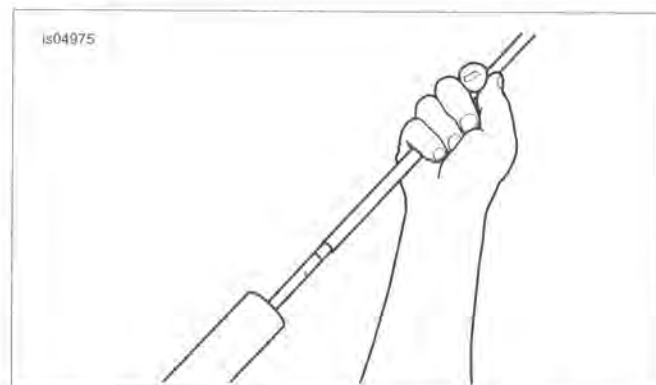

Figure 2-103. Pump Damper Rod Extension Tool
- a. Install damper rod extension tool from FORK SPRING COMPRESSING TOOL (Part No. HD-45966) onto end of damper rod (18).
- c. See Figure 2-103. Grasping extension tool, slowly pump damper rod until resistance is felt. then pump five more times.